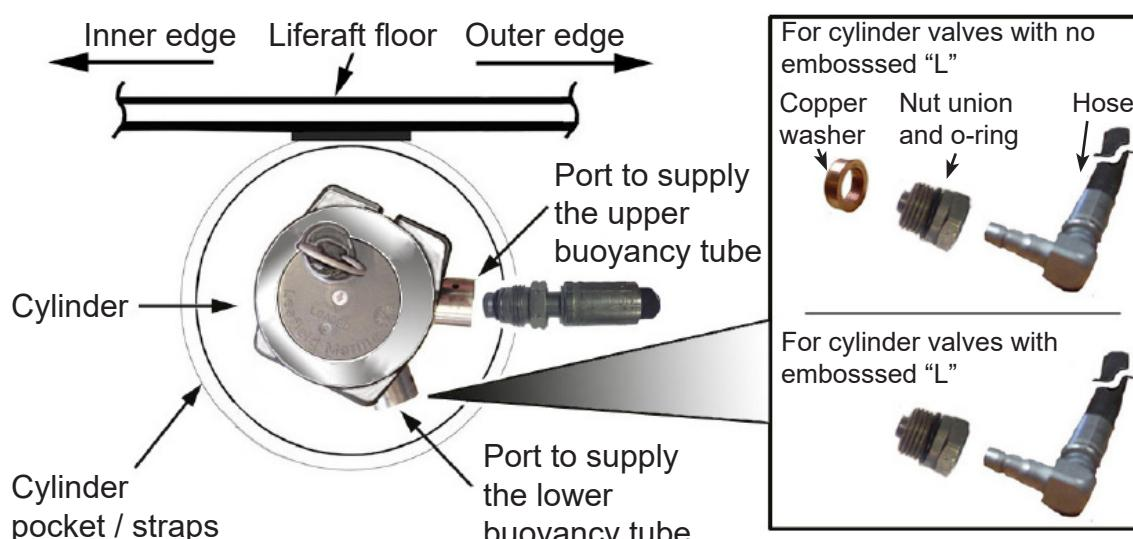

FIGURE 865
- 8.7 Put the cylinder into the cylinder stowage arrangement. Take care not to trap the righting strap. The cylinder must be orientated so that the top operating head outlet runs parallel with the base of the liferaft. Refer to **Figure 865**.